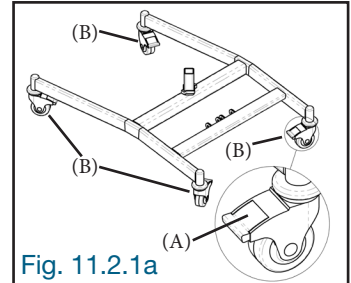

Fig. 11.2.1a
Each of the four wheels has a brake (A). Make sure that all four wheel brakes (B) are securely locked when the product is being used, adjusted, or stored (Fig. 11.2.1a).